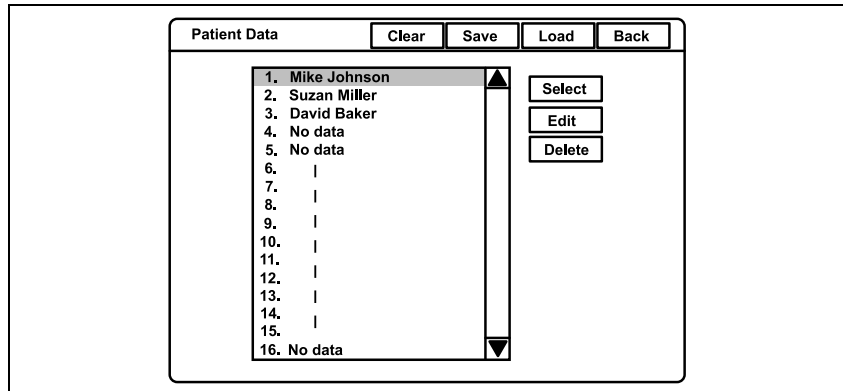

Figure 5.90
1. Press the “Shift” and “F3” keys together to display the “Patient Data” menu (see Figure 5.90).